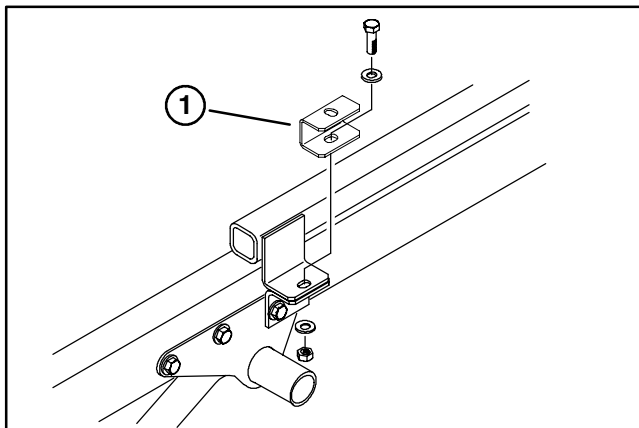

Figure 5
3. Remove the capscrew, (2) flatwashers and locknut securing each attachment bracket to hitch frame tabs (Fig. 5).
4. Secure a spacer mount to top of each hitch frame tab with the capscrew, (2) flatwashers and locknut previously removed (Fig. 5).